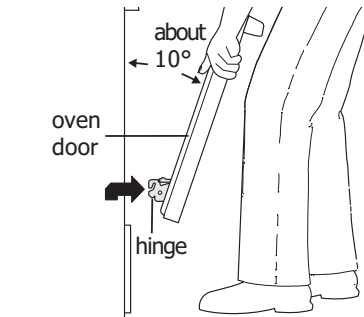
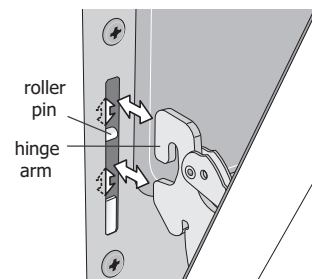

Figure 9: Holding door for removal
Figure 10: Replacement and location of hinge arm and roller pin
3. Firmly grasp both sides of oven door along the door sides. Do not use the oven door handle (See Figure 9).
4. Close the door to approximately 10 degrees from the door frame (See Figure 9).
5. Lift the oven door hinge arms over the roller pins located on each side of the oven frame (See Figure 9).
1. Firmly grasp both sides of oven door along the door sides. Do not use the oven door handle (See Figure 9).
2. Holding the oven door at the same angle as the removal position, seat the hook of the hinge arm over the roller pins located on each side of the oven door frame (See Figure 9 and Figure 10). The hook of the hinge arms must be fully seated onto the roller pins.